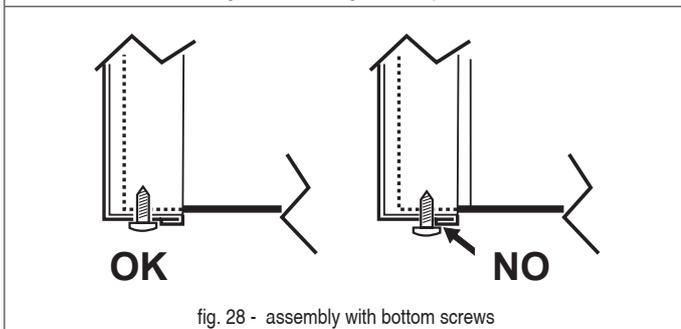

fig. 28 - assembly with bottom screws
- Proceed in reverse order to reassemble the front panel. Make sure that it is correctly attached to the upper fixing and completely resting on the side panels. The head of the screw "A", once tightened, must be positioned as indicated in "fig. 28 - assembly with bottom screws".